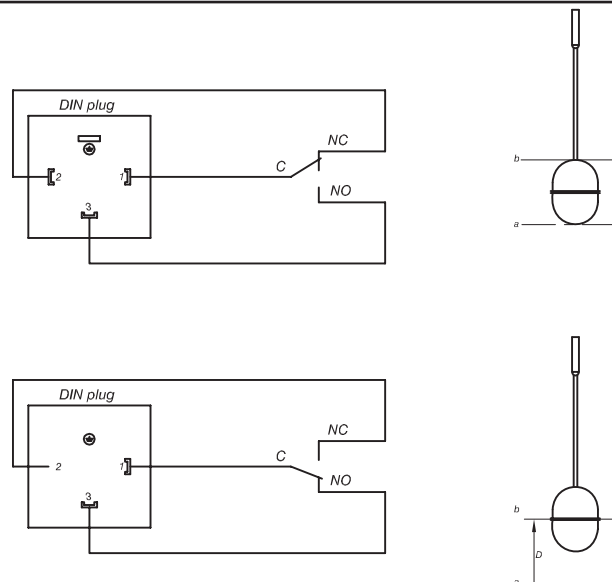

FIG.6
- Reposition the lower locking ring at the required differential setting (see fig.6 and fig.7)
14. Electric installation make electrical connection to DIN plug using cable with maximum 4 cores and wire in accordance with wiring diagram (fig.6)
MAKE ELECTRICAL CONNECTION TO 'DIN PLUG' USING CABLE WITH MAXIMUM 4 CORES AND WIRE IN ACCORDANCE WITH WIRING DIAGRAM. (FIG. 6)